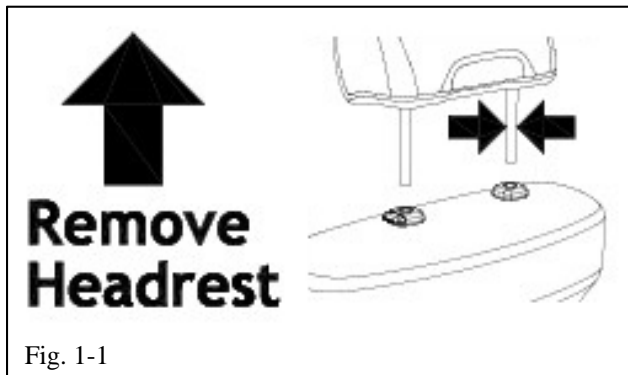

Fig. 1-1
- (a) Remove the front head rest (Fig. 1-1).
- (b) Place the 10mm and 12mm inserts on the headrest strut and determine which one fits best (Fig. 1-1).